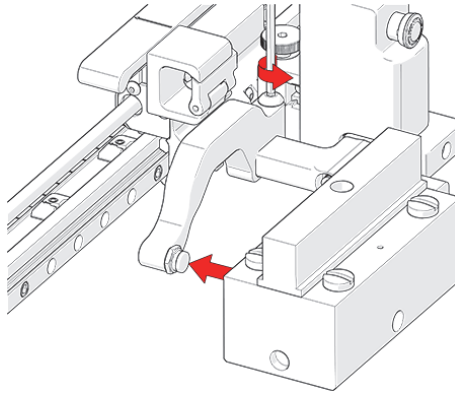

Figure 3-22 Adjust inner arm
3. Loosen the arm clamp screw (see Figure 3-22 on page 53).